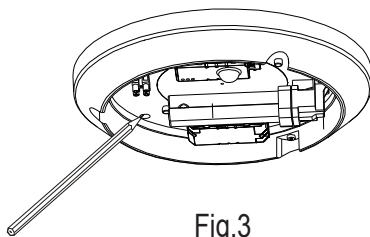

Fig.3
- Step3 Put the base of the product on the ceiling to make the drilling mark (as Fig.3)